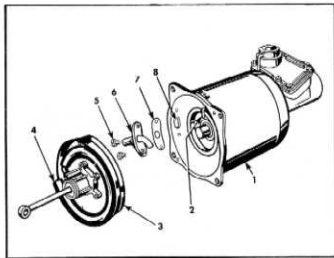

Fig. 7
25. Apply film of brake fluid to the inside of the cylinder shell (1) and to lip of packing (3). Remove assembly tool J-5406 from piston and insert piston in cylinder so that the vacuum hose end is slightly below the elongated hole (8) in figure 7.
26. Push the piston into the cylinder shell (1) until piston engages end of hydraulic plunger and small hook of return spring (2) is between two webs on the back side of the piston assembly.
28. Assemble new gasket (7), tube and plate assembly (6) with retaining screws (5) to the cylinder shell, then slide vacuum hose (4) approximately $\frac{5}{16}$ " on fitting (6).